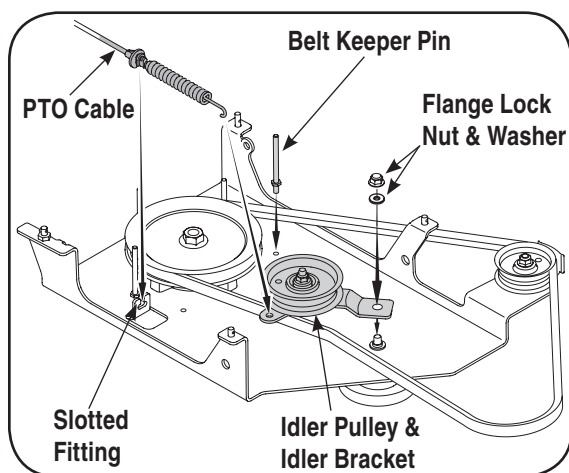

Figure 10a
2. Remove the flange lock nut and washer as pointed out in Figure 10a, leaving the spacer underneath it in place. Mount the idler pulley (756-0627D) and idler bracket (783-1291) from the loose parts included in this carton. Replace the flange lock nut and washer.
4. Attach the PTO cable to the idler bracket, then fit the cable into the slotted fitting as seen in Figure 10a.